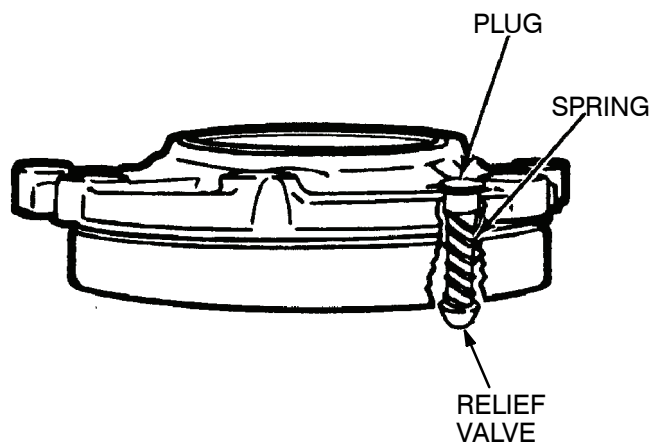

Figure 26. Pressure Relief Valve Removal.
- (8) If necessary, use a press and a sleeve to remove the cup from the input bearing cage.
- (9) If necessary, remove the pressure relief valve assembly from the front of the bearing cage. Remove the plug, the spring and the relief valve from the bore. Figure 26.